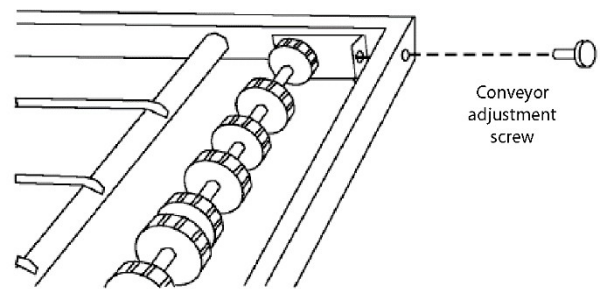

Figure 34. Disassembling the Idler Shaft
- c. Remove the two conveyor adjustment screws from the idler end of the conveyor frame, as shown in Figure 34.
- g. Reassemble the idler shaft into the conveyor. Make sure that the bronze bushing is in proper position. See Figure 34.
- h. Replace the conveyor adjustment screws as shown in Figure 34. To allow the conveyor belt to be reinstalled later, do not tighten the screws at this time.
- m. Reassemble the drive shaft into the conveyor. See Figure 34.